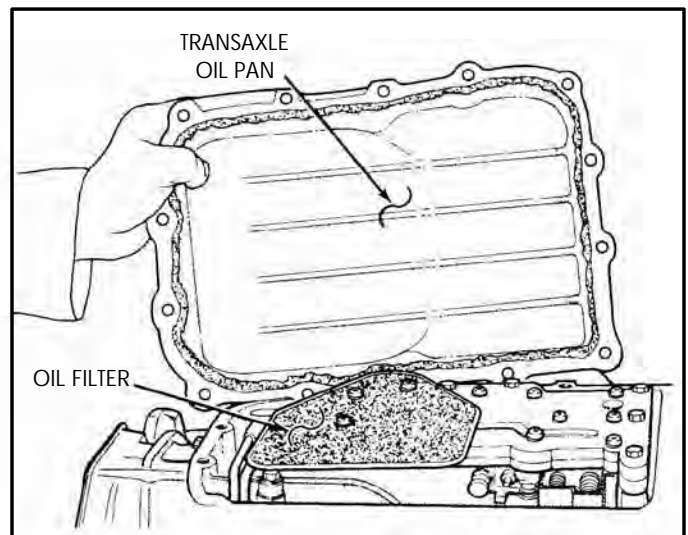

Figure 29
7. Remove the transaxle oil pan and clean RTV sealant from surface (See Figure 29).